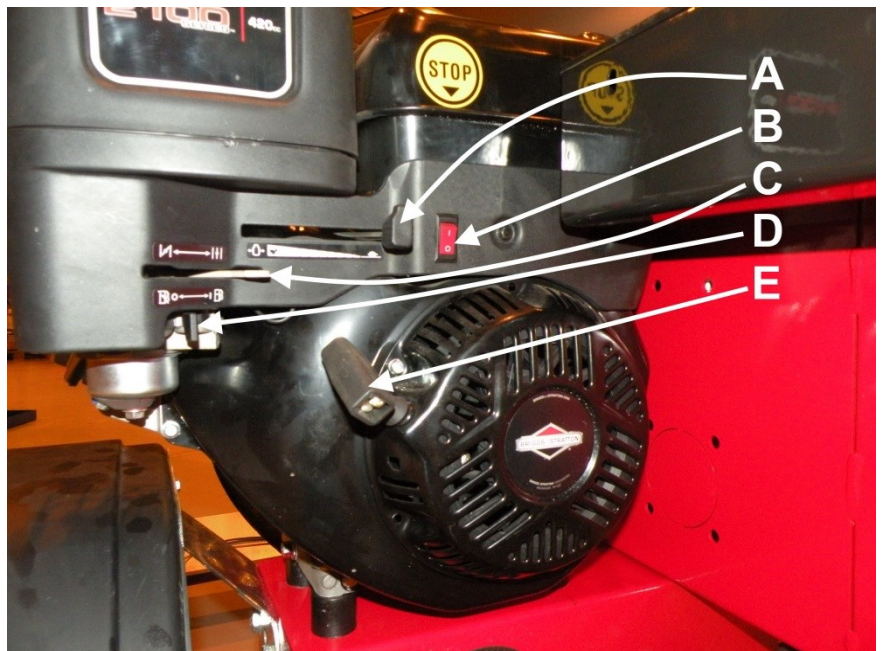

Figure 14.
2. Switch the engine's power on by turning the switch B to position 1 (Figure 14).
3. Open the petrol valve by turning the lever D to the right and, **IF NECESSARY**, engage the choke (when the machine is too **cold** to start without it) by turning the lever C to the left (Figure 14).
5. Pull the handle E until the engine starts. If necessary, use the throttle lever A (Figure 14) to increase the engine's rpm.
Turn off the machine by turning the lever b (Figure 14) to the 0 position. **Note! Allow a hot engine to idle for a moment before turning it off.**